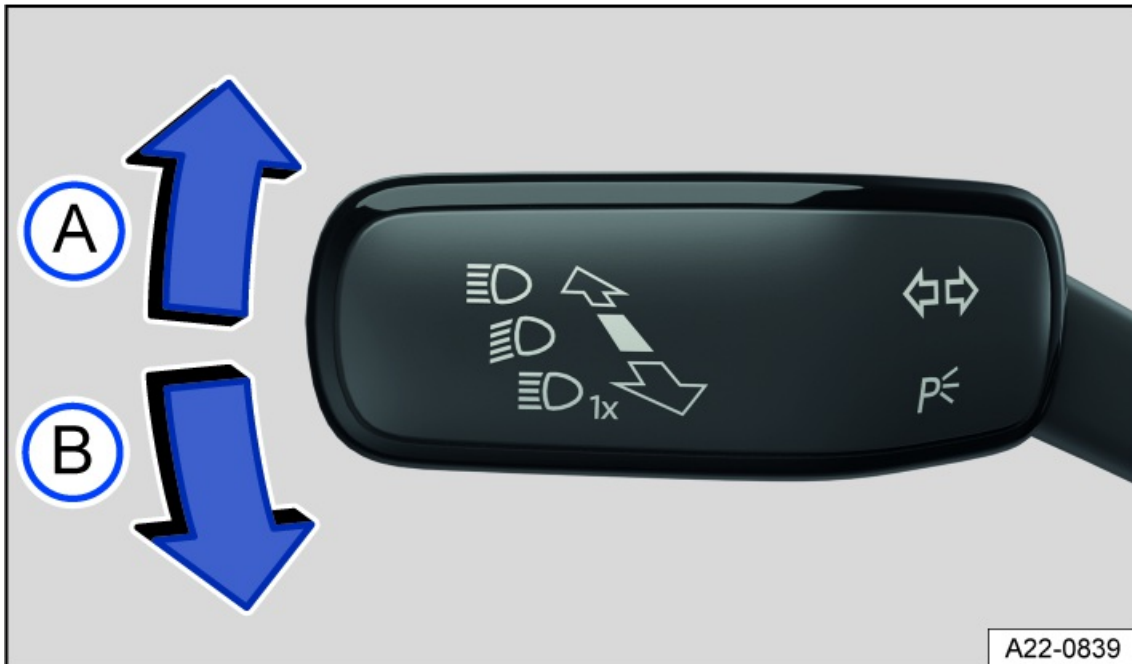

Fig. 79 On the left side of the steering column: turn signal and high beam lever.
2. Move the lever out of the center position into the desired position *fig. 79*.